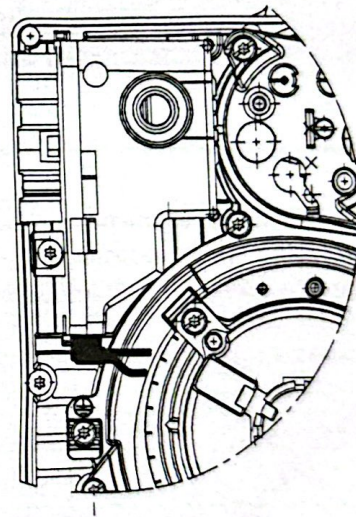

Fig. 2
- Check proper insertion of connection connectors according to the symbols shown on the bottom of the flame control equipment: make sure that the connectors are fully inserted by pushing them all the way in, each in its relevant position. All connectors must have the connection cables facing towards the inside of the burner (See Fig. 2).